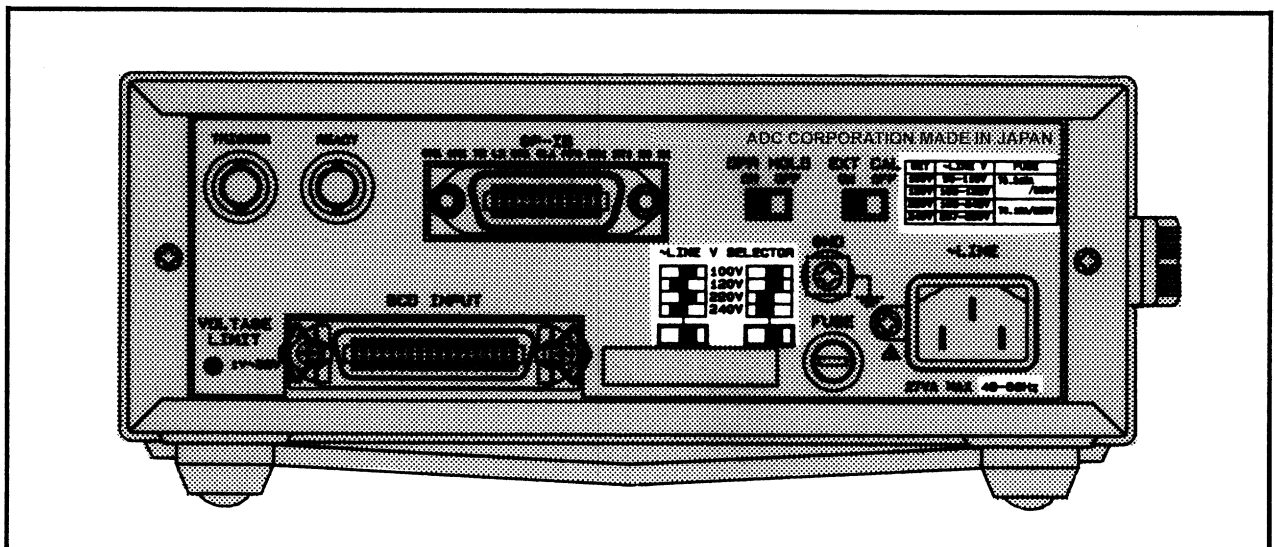

Figure 1-2 Supply Voltage Selector Switch
- ① Wrap the 6144 in a vinyl sheet.
- ② Wrap the unit in a cushioning material and place it in a cardboard box 5 mm or thicker.
- ③ Put in the accessories, followed by more cushioning material, and close and seal the box.
- Make sure that the supply voltage to be used matches the set position of the units supply voltage selector switch. (See Fig. 1-2)